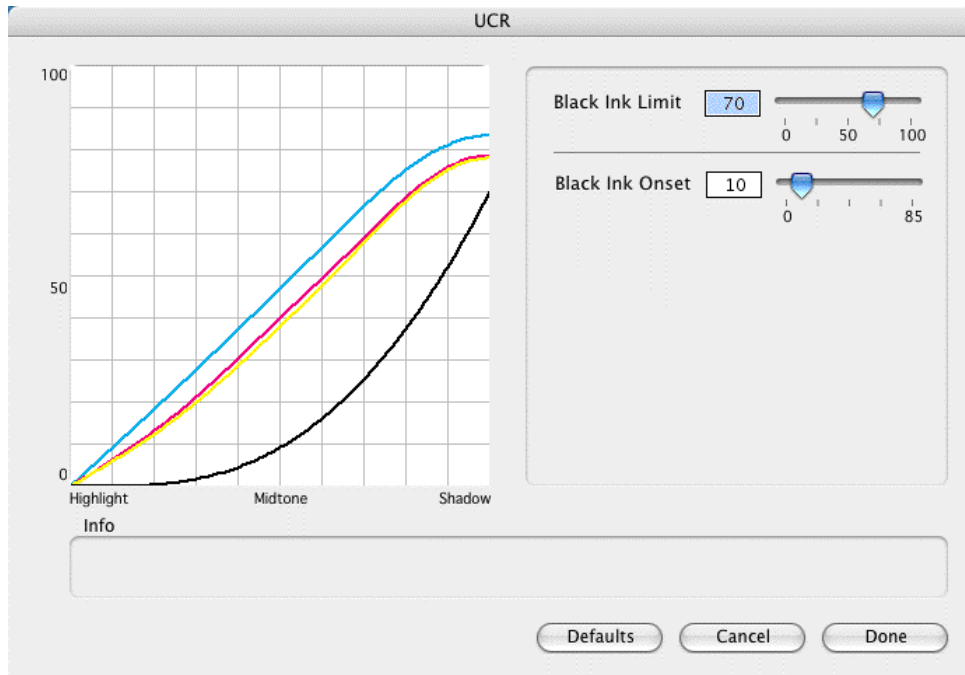

Figure 19. Setting Ink Limits and Black Ink Onset
5. Set the **Black Ink Onset**. Enter a number and press **Tab** or use the slider. The default is 50%. Figure 19 shows a black ink onset of 10%. In other words, the black ink will be laid down starting at the 10% dot, or the Highlight area.